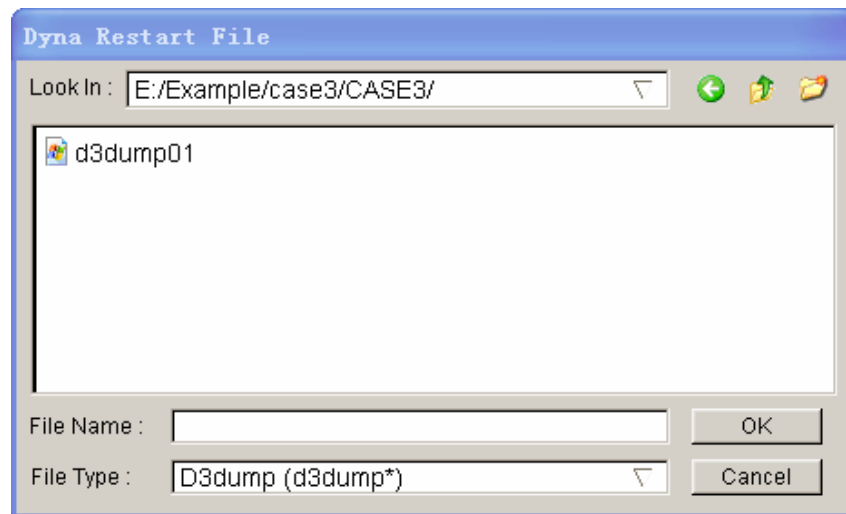

Figure 3.9.1 Select DYNA Restart File
1. eta/DYNAFORM prompts the user to select the input file. See Figure 3.9.1.